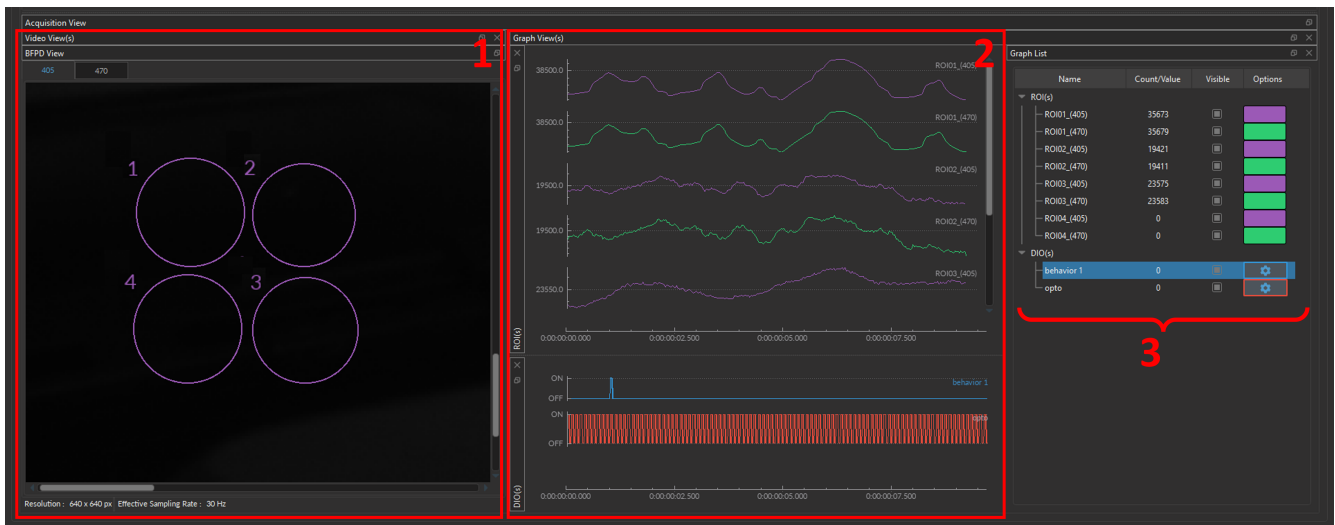

Figure 15.39: Acquisition View
The **Acquisition View** (Fig. 15.39) is split into separate divisions, each of which visualizes different types of data in the following sections:
1. The **BFPD View** (Fig. 15.39, 1) - Section 15.5.1;
2. The **Graph View** (Fig. 15.39, 2) - Section 15.5.2;
3. The **Graph List** (Fig. 15.39, 3) - Section 15.5.3.